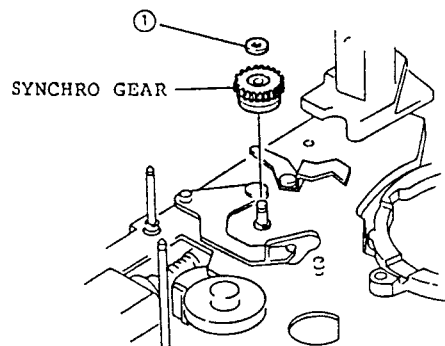

Fig. 2-93
1. Remove one (1) washer holding the synchro gear. (See Fig. 2-93)